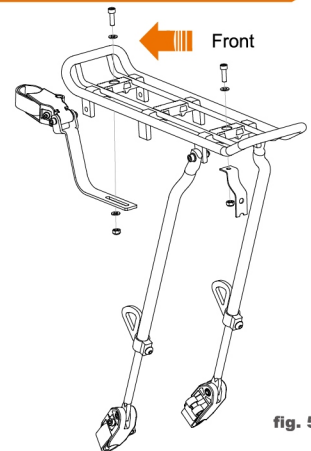

fig. 5
3. Attach mounting arm to carrier. Using 4 mm Allen key and wrench in unison, attach arm using medium Allen bolt, washer and nut. Tighten bolts, but not too firmly as further adjustment will be necessary (see fig. 5).